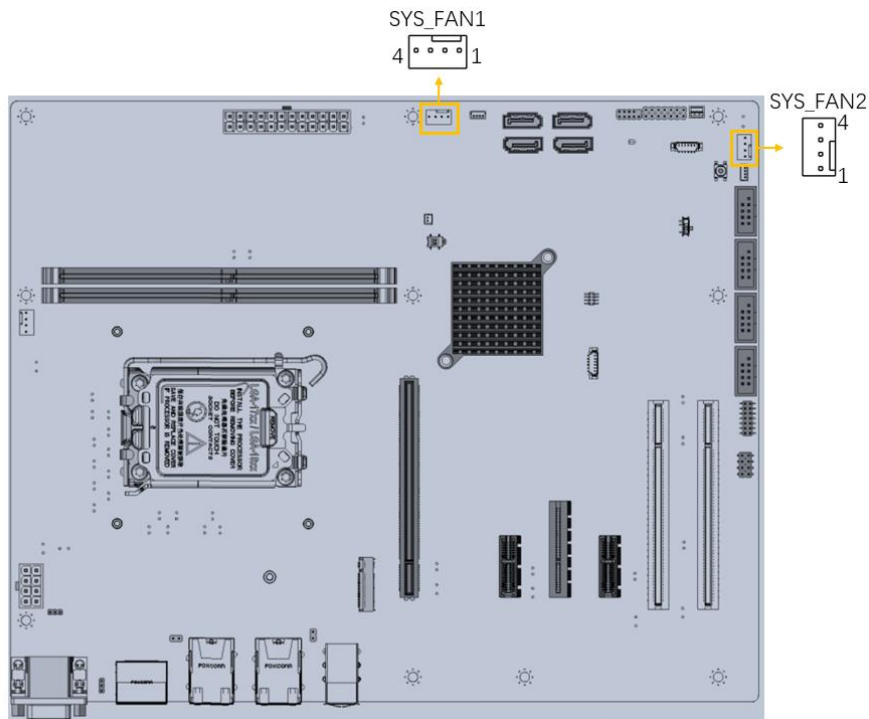

Figure 3-15: System Fan 1&2 Locations
- CN Location:** See **Figure 3-15**